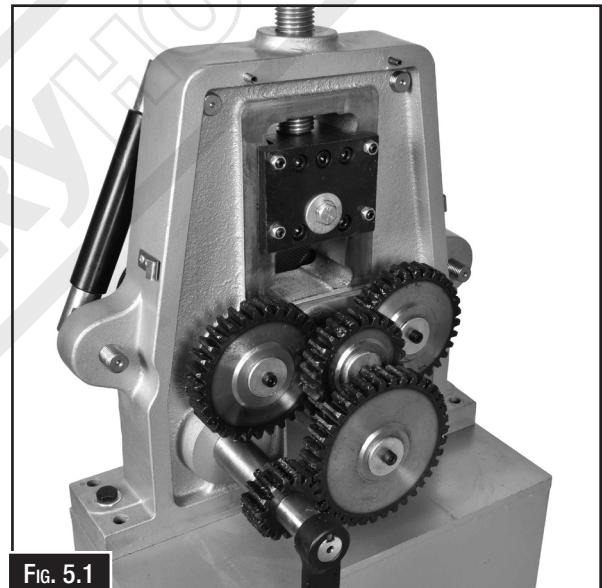

FIG. 5.1
1. Remove the back cover. (Fig. 5.1)